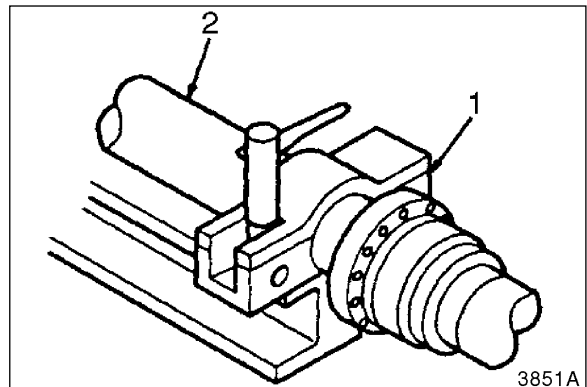

Figure 32
18. Slide cylinder head assembly (1, Figure 32) onto cylinder rod (2). Use caution to prevent threads on rod from damaging seal inside cylinder head.